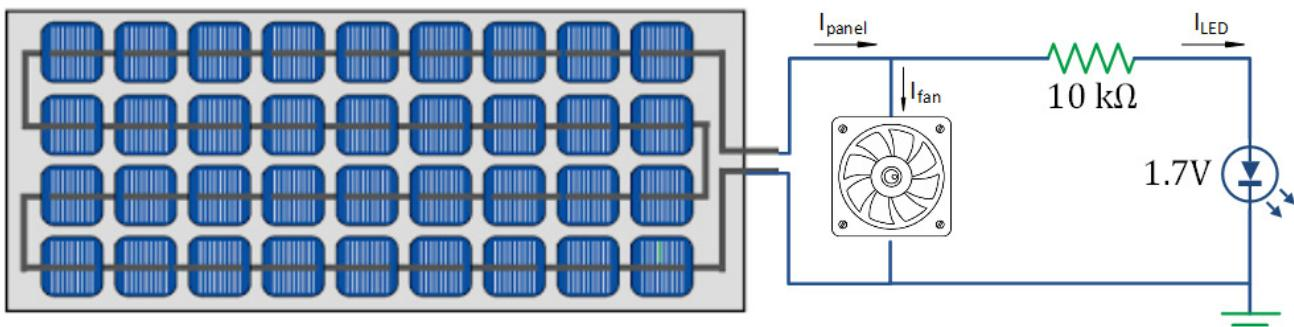

Figure 3.8. Circuit of solar powered fan with LED light for pet house.
- B.8** Measure the current through the solar panel, the fan and the LED light, as per Figure 3.8. Record all your results in the Table below.